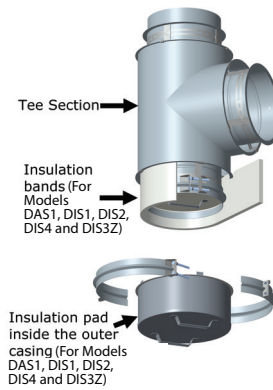

Figure 33c: Tee Cap insulated casing Step 3 and 4
- 4 - Wrap the insulation band around the inner wall of the Tee, up to the spacer/ brackets inside the Tee. See Figure 33c.